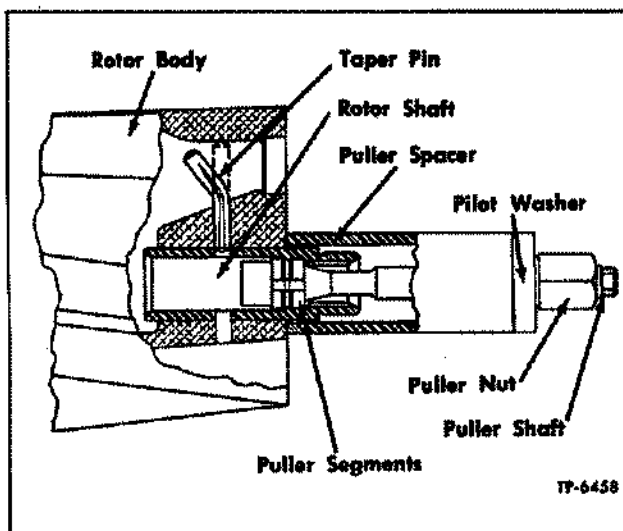

Figure 13—Blower Rotor Shaft Removal
2. Drive tapered pin back as shown by dotted lines in figure 13, then, bend and repeat process until pin drops into rotor body.
5. With segments held in retracted position insert puller shaft into stub shaft until segments are beyond stub shaft splines. (Figure 13).